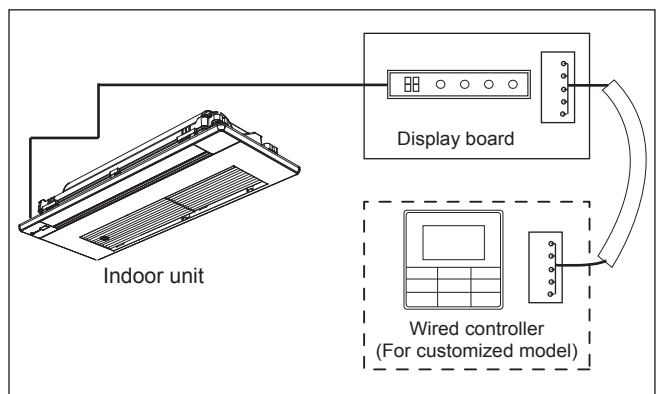

Figure 7.5
- Use 1 wired controller to control 1 indoor unit (see Figure 7.5).